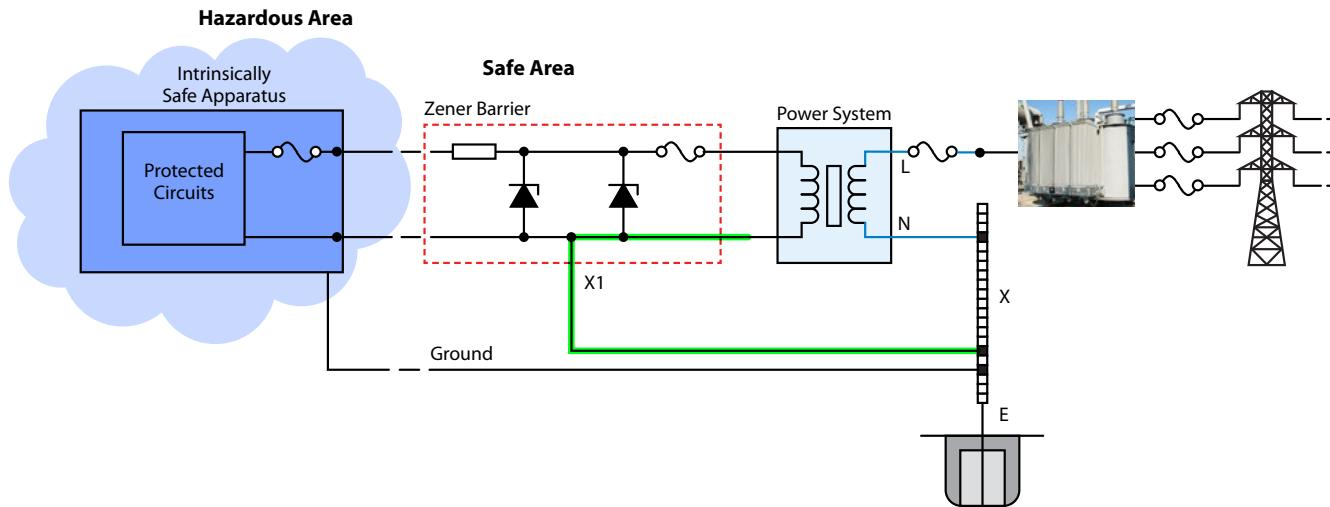

Figure 1. Intrinsic safety system using zener barrier.
Today, the installation, use, and maintenance of devices within potentially explosive areas requires that these devices be certified to provide protection against ignition. Intrinsic Safety (IS) is a practical method of achieving such protection. *Figures 1 and 2* show examples of common intrinsic safety systems.